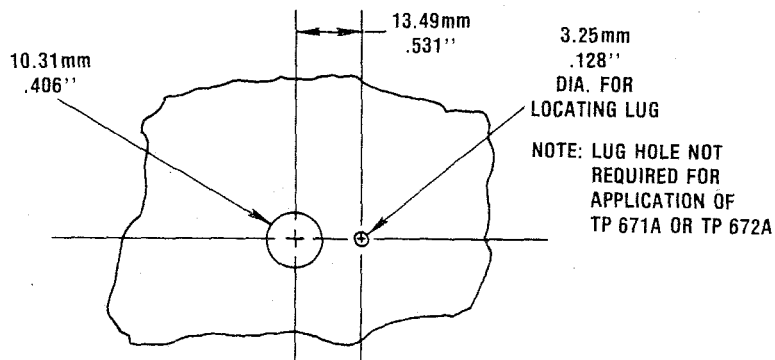

Figure 6. Speed trim control mounting holes
1. Drill the mounting holes at a convenient location and in accordance with Figure 6.